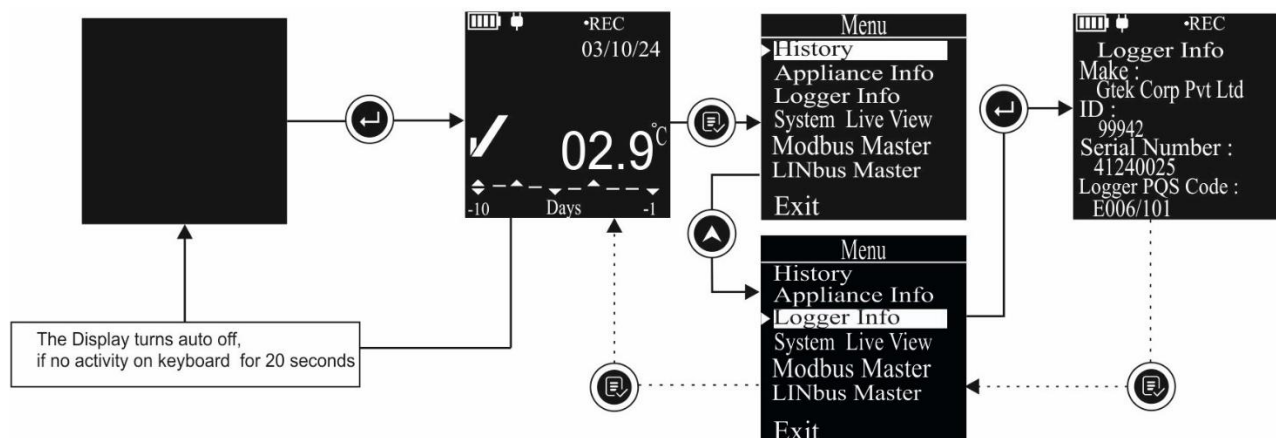

Figure 18 Logger Information Menu
- Access the main Menu and select the Logger Info option as per the steps shown in figure 18.
Note: The information shown in figure 18 are for example purpose only.